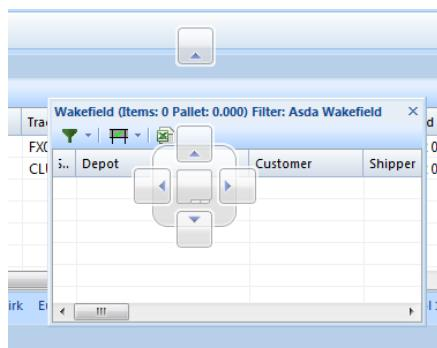

Figure 3
1. Move the mouse pointer onto the Title bar of the window (Figure 3)